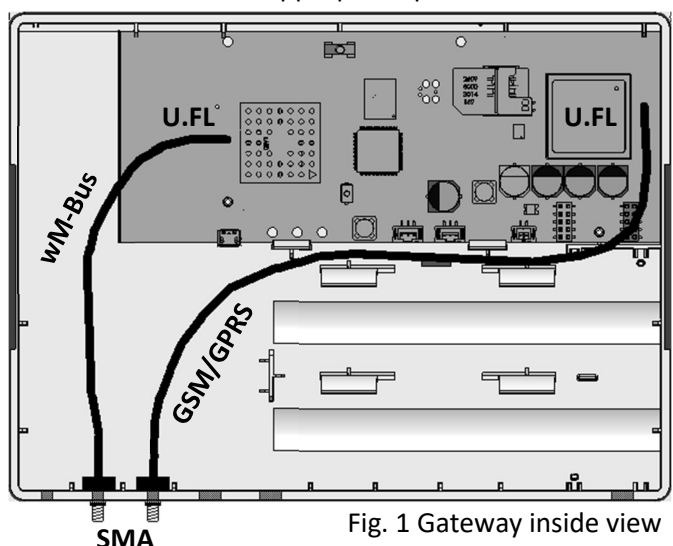

Fig. 1 Gateway inside view
- On the left bottom of the case you will find 5 predetermined breaking points. The second one is for wireless M-Bus and the third one for GSM/GPRS (see Fig. 1).
- The plug for wireless M-Bus is on the left, for GSM/GPRS on the right side of the circuit board (see Fig. 1).